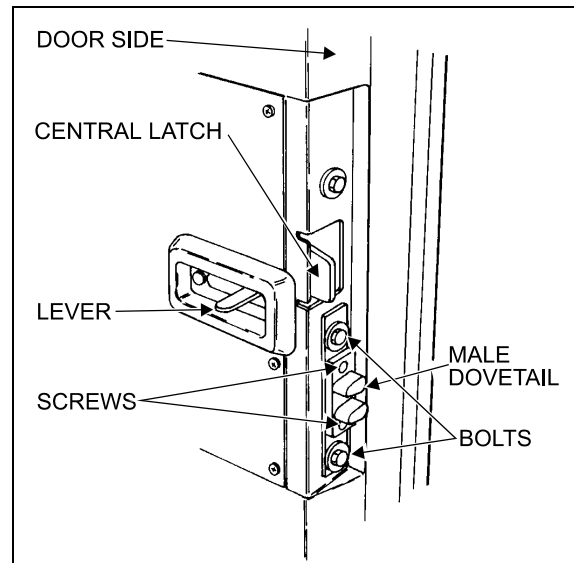

FIGURE 17: DOOR LATCH (COACH)
5. To adjust the male dovetail on L.H. side of the door, remove the two screws and loosen the two bolts. Slide the male dovetail toward the interior and loosely tighten the two bolts. Close the door slowly but firmly, then slowly open it and tighten the two bolts. Attach dovetail to the door with screws. See figure 17.